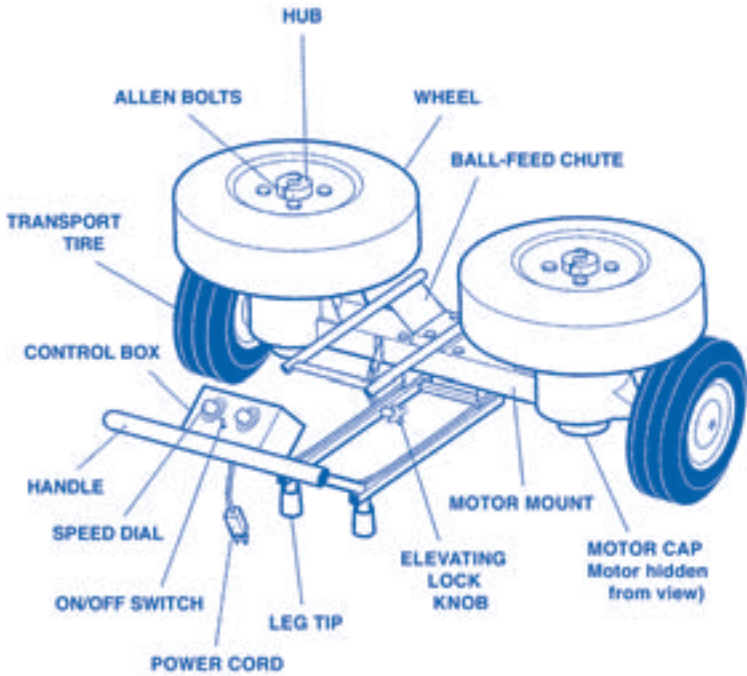

Figure 3
2. Make sure you have all the parts (See Figures 3). If any parts are missing, do not operate the machine until the missing parts are replaced. Failure to do so could result in possible serious personal injury.